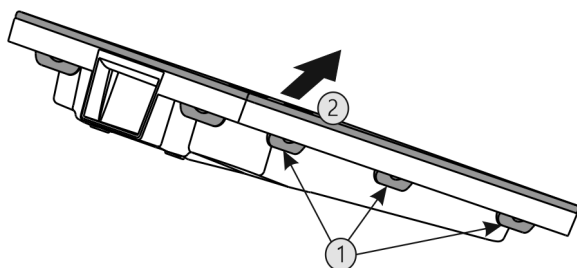

Fig. 58
- ▶ Press all lugs Fig. 58 (1) one after another and remove the cover Fig. 58 (2).